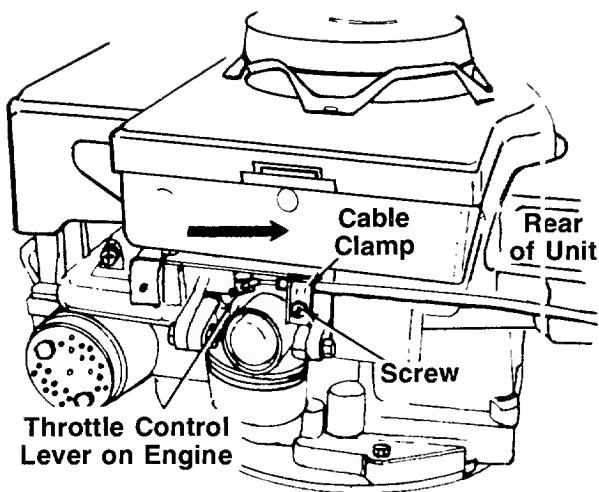

FIGURE 6.—Tecumseh Engine
2. The throttle control cable is attached to the upper handle. Route the throttle control cable under the lower handle and inside the handle mounting bracket. Hook the "Z" end of the throttle control cable into the control lever on the engine as shown in figure 6.
3. Loosen (do not remove) the screw on the cable clamp shown in figure 6. Slip the control casing under the clamp (cable must move freely beneath the clamp).